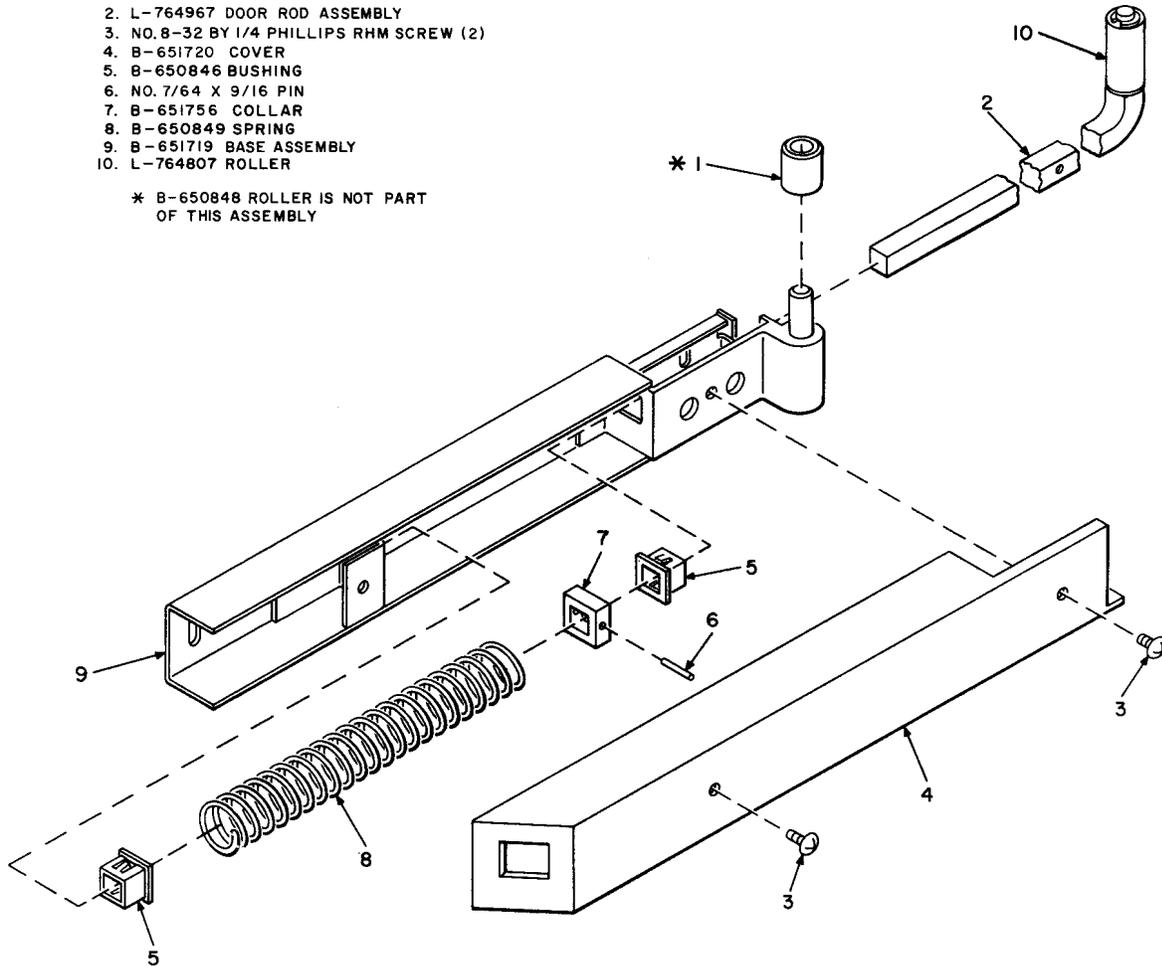

Fig. 27—B-993172-1 Door Guide Assembly
4.49 The KS-19425 booth will have either a B-651721-1 short-roller door guide assembly (Fig. 26) or a B-993172-1 long-roller door guide assembly (Fig. 27).